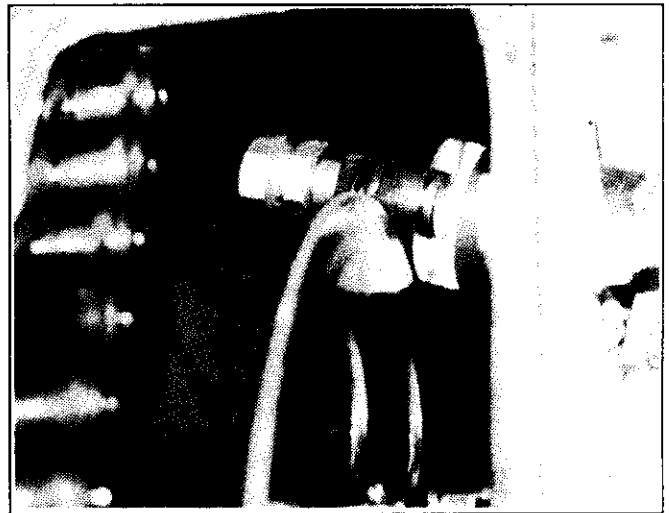

Figure 6-6
6. Remove four (4) 3/8 inch cap screws from brake caliper mount.
7. Slide caliper off brake disc and remove through chain case mounting hole. (In some cases it may be necessary to disconnect primary drive chain. (See figure 6-6)